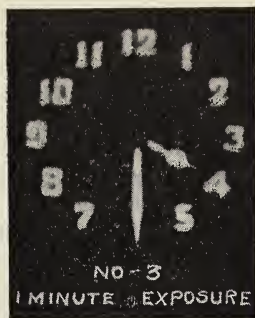

FIG. 787. Radium salts are used to coat the hands of watches and clocks and the dials of instruments that are used for night work.
3. Radium salts produce *fluorescence* with certain salts, just as X rays do. Hence, a mixture of a very small quantity of radium bromide and zinc sulfide is luminous in the dark. Such a mixture is used as a luminous paint for coating the dials of airplane instruments, the hands and dials of watches, and the sights of guns that are used for night firing. (See Fig. 787.)